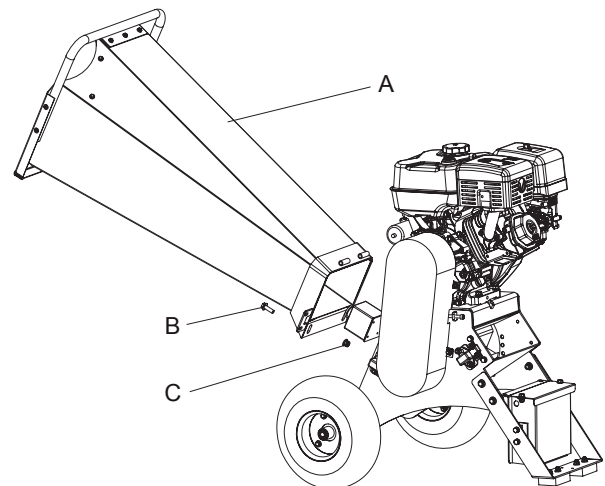

Figure 2
**INSTALL IN-FEED BIN - FIG 2**
1. Position the In-feed bin (A) to the engine base and attach the bin on the hinge side first.
2. Close the bin and use the two M10x30 (B) flange bolts and two flange M10 nuts (C) to fix.